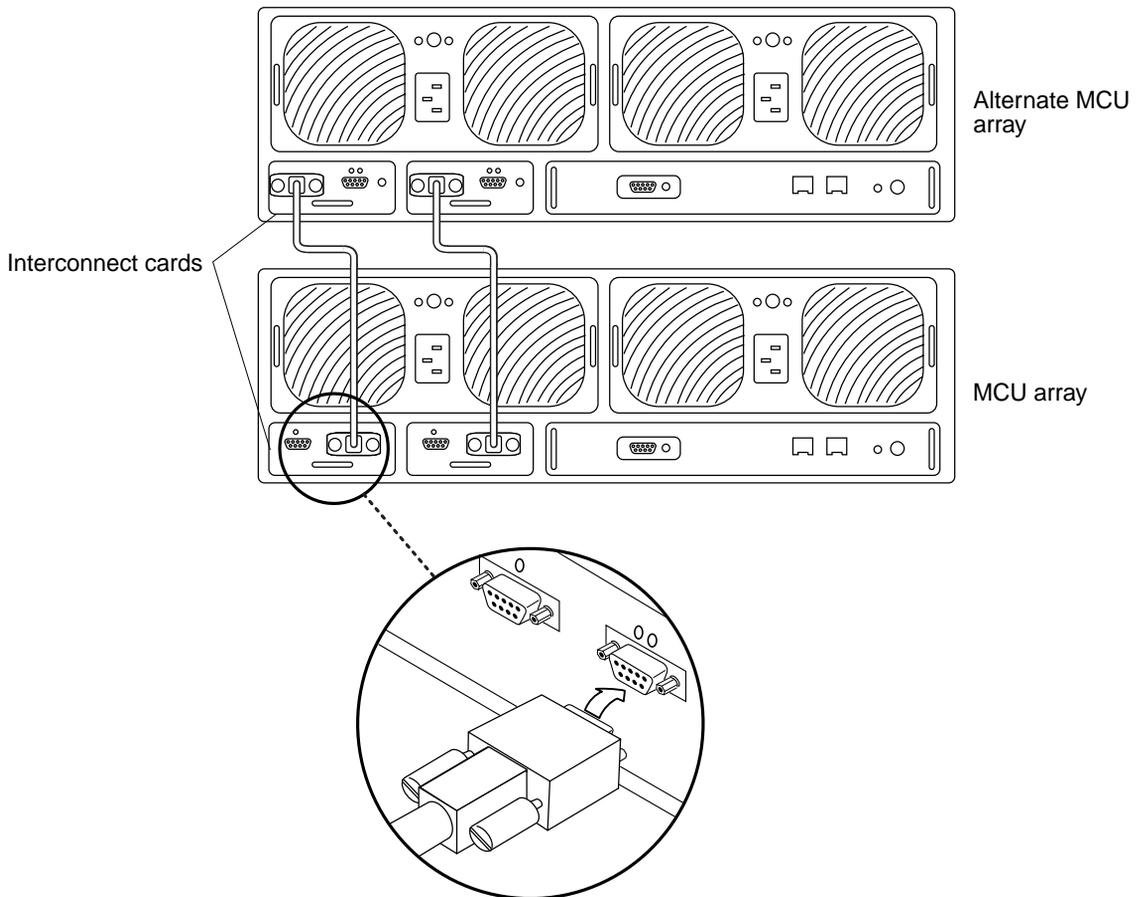

FIGURE 1 Connecting the Interconnect Cables
- Use the interconnect cables to interconnect the array partner group as shown in FIGURE 1 on page 6.